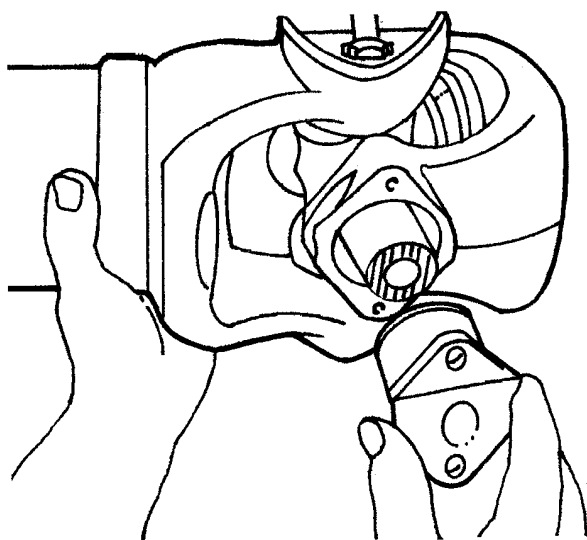

Figure 29 Move Cross Through Cross Hole
6. Move the cross through the cross hole until a journal extends beyond the outer machined face of a yoke lug (Figure 29).